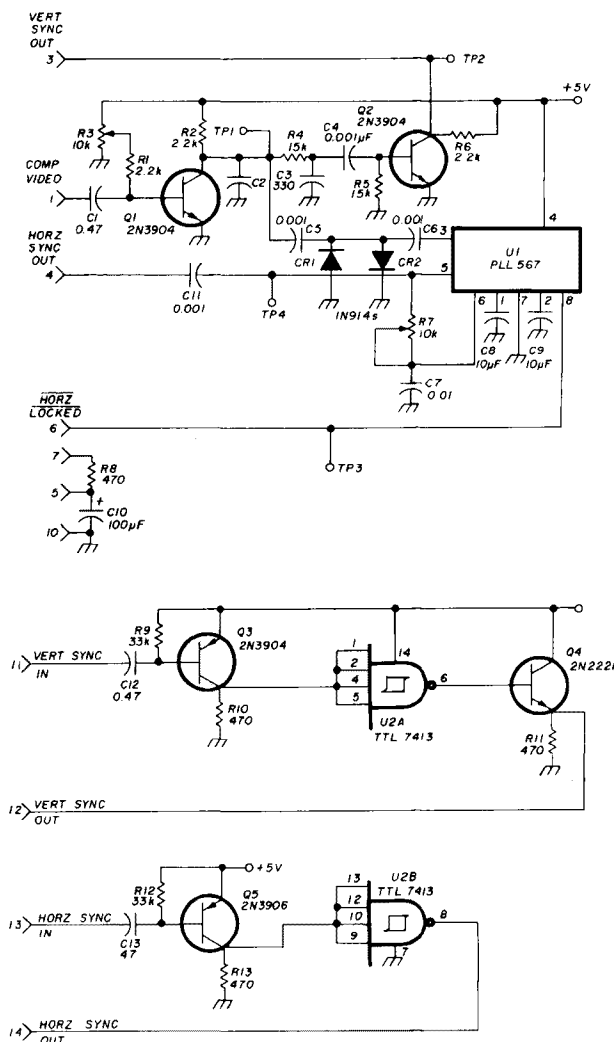

fig. 4. Gen-Lock schematic (A5 board).
**Gen-Lock (A5 board).** The video input enters on A5 pin 1 (see **fig. 4**). It drives Q1, a sync stripper. Q1 removes all the video, and only composite horizontal and vertical sync signals remain at the Q1 collector.